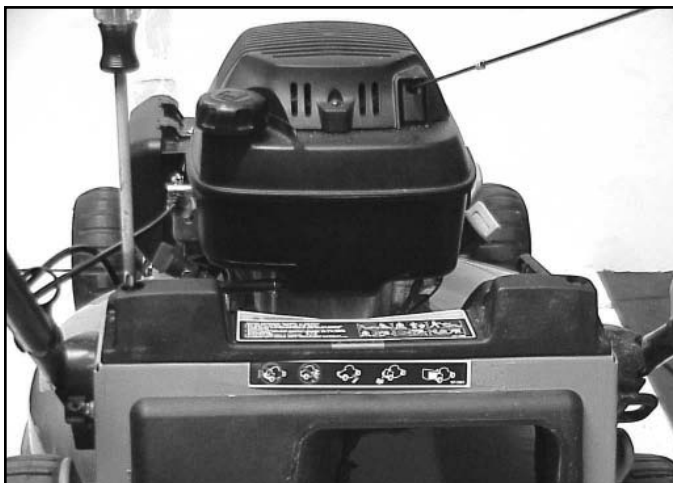

Fig 090
2. Remove two screws that secure the rear cover (Fig. 090).